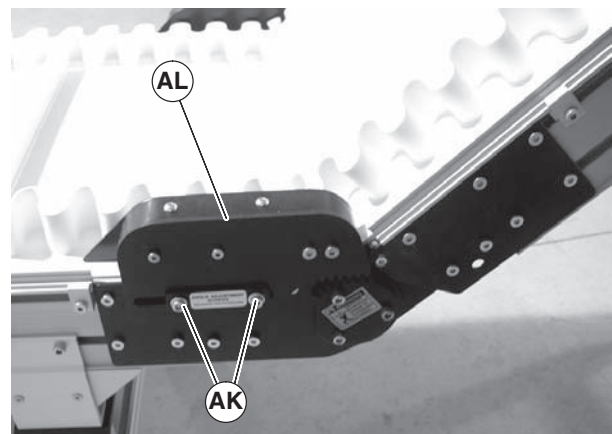

Figure 24
- If equipped, remove screws (Figure 24, item AK) and remove lower knuckle return roller assembly (AL) on both sides of conveyor, note the position of the meshing teeth.